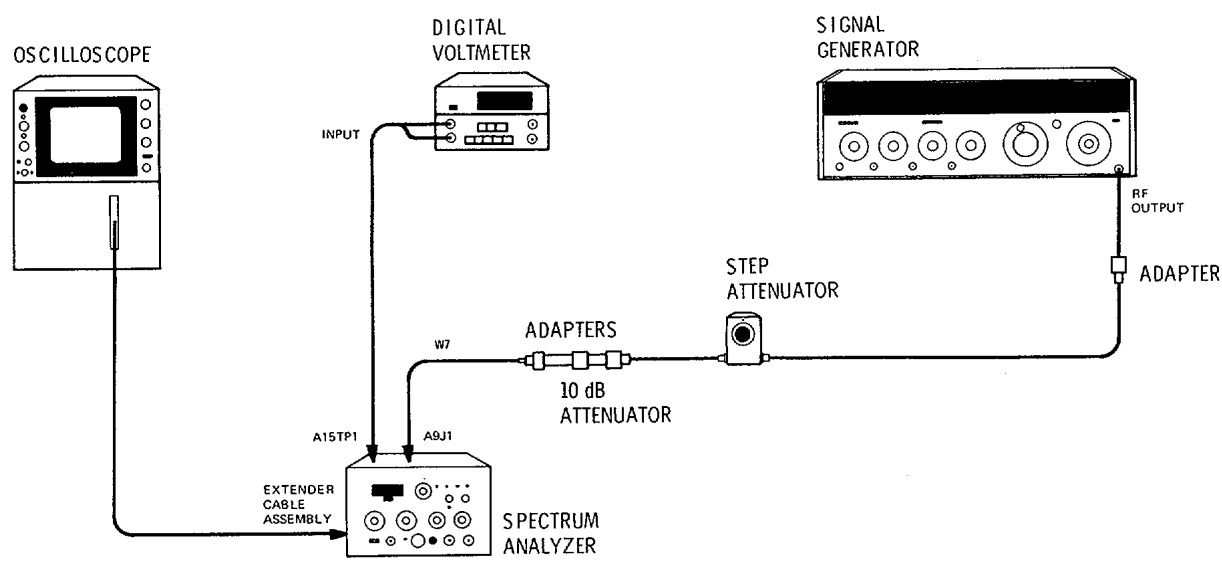

Figure 7-4. Log Amplifier Log and Linear Adjustment Test Setup (CHANGE B)
- 2. Connect equipment as shown in Figure 7-4. Set signal generator frequency to 301.4 MHz and output level to - 13 dBm. Remove W7P1 from Second IF assembly A10J2. Connect signal generator output through step attenuator, 0 dB attenuator, and adapters to W7P1.